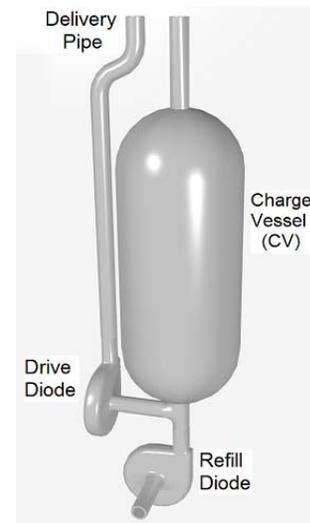

Figure 5—Vortex Diode Pump
The simplest form of a Vortex Diode Pump consists of a Charge Vessel (CV) with upper and lower connections. Cyclic air pressure is applied at the upper connection resulting in fluid either entering or leaving, via the Vortex Diodes. See Figure 5.